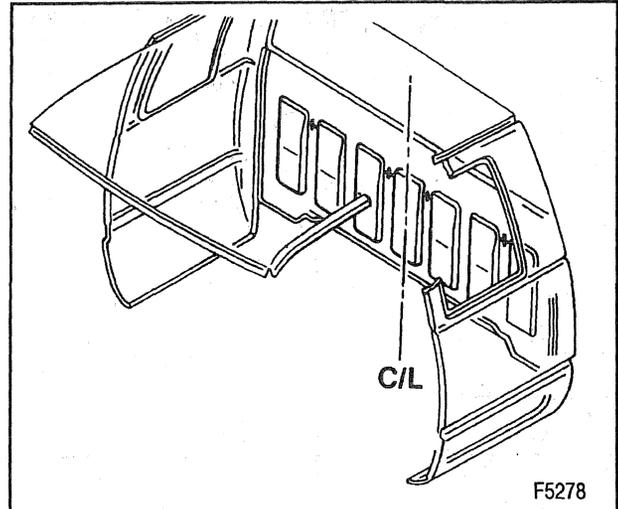

Figure 36—Child Restraint Anchor Installation
Install or Connect (Figures 36 and 37)
4. Locate the position where the hole will be drilled from inside the cab. The hole may be located either 109 mm (4.3 inches) or 545 mm (21.4 inches) outboard from the centerline or center line of the back panel and 42 mm (1.65 inches) below the horizontal sheet metal panel (figures 36 and 37).